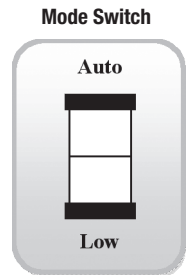

Figure 5
2. To install the remote Mode Switch (Figure 5), connect one pole of the switch to the Auto/Low wire and the other pole to ground.
To begin operation simply set the switch to the **'ON'** position (Figure 7), set the Mode switch (Figure 5) to the Auto position, **AND** open the **HOT WATER** faucet you want to use. The unit will automatically light and start heating your water. **DO NOT** use cold water to adjust the temperature.